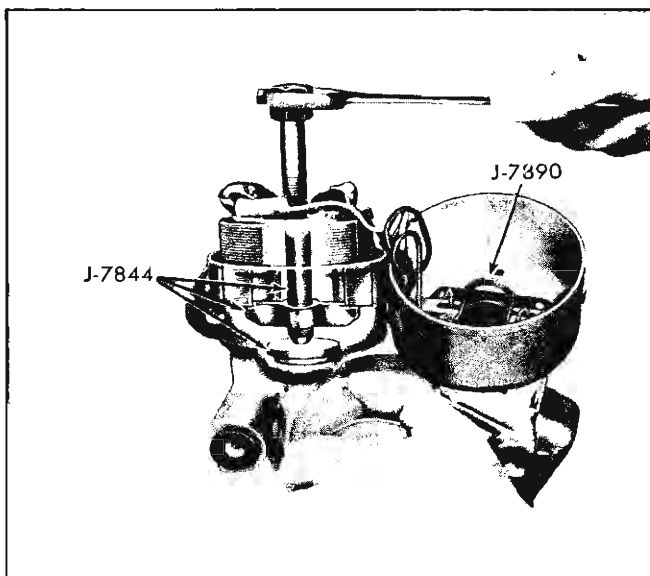

Fig. 63—Removing Field Coil with J-7844
6. Pull the armature out of the case and install brush retainer spring, Tool J-7890, as shown in Figure 63.
- d. Install Tool J-7844 in motor housing as shown in Figure 63. Make certain puller screw base plate is installed flat side up and puller flanges straddle sides of coil.